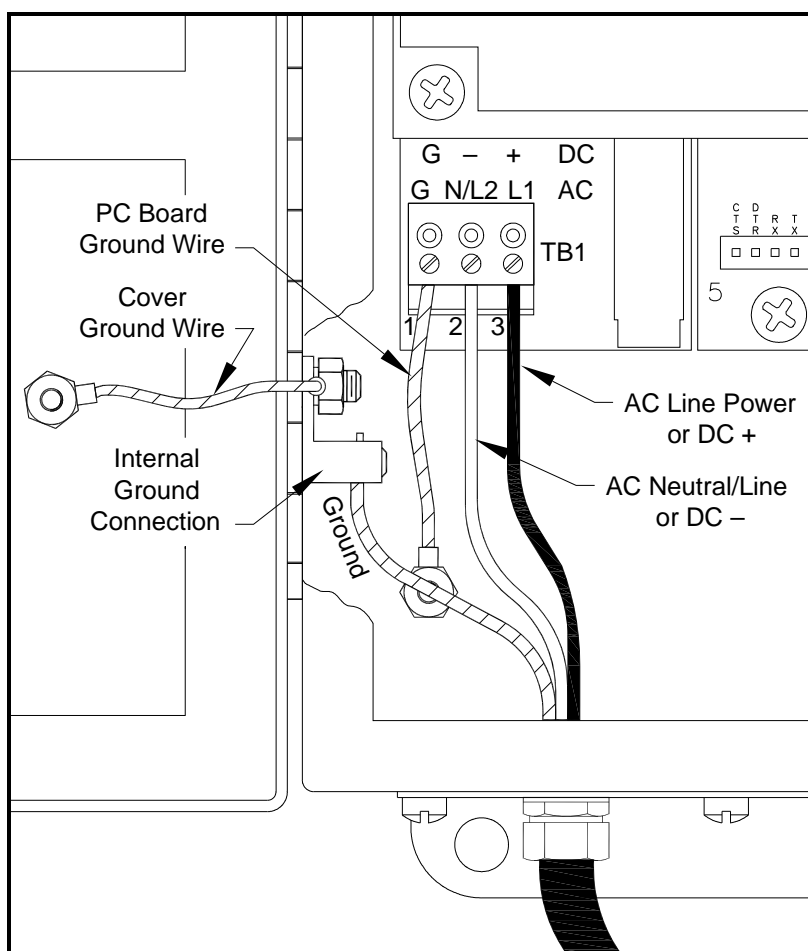

Figure 3: Wiring the Line Power
Refer to Figure 3 on page 7 or Figure 9 on page 18 to locate terminal block TB1 and connect the line power as follows:
3. Connect the ground lead to the internal ground connection located on the side panel of the enclosure (see Figure 3 below).
4. Connect the neutral or line lead (or the negative – DC power lead) to TB1-2 and the line power lead (or the positive + DC power lead) to TB1-3 as shown in Figure 3 below.